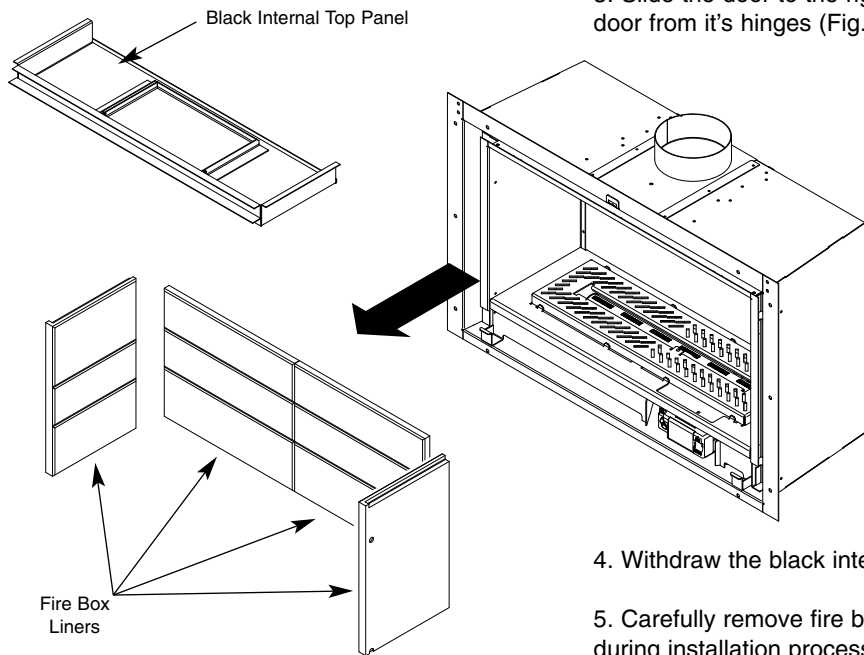

Fig. 4
4. Withdraw the black internal top panel (Fig. 4).
5. Carefully remove fire box liners to avoid damage during installation process (Fig. 4).